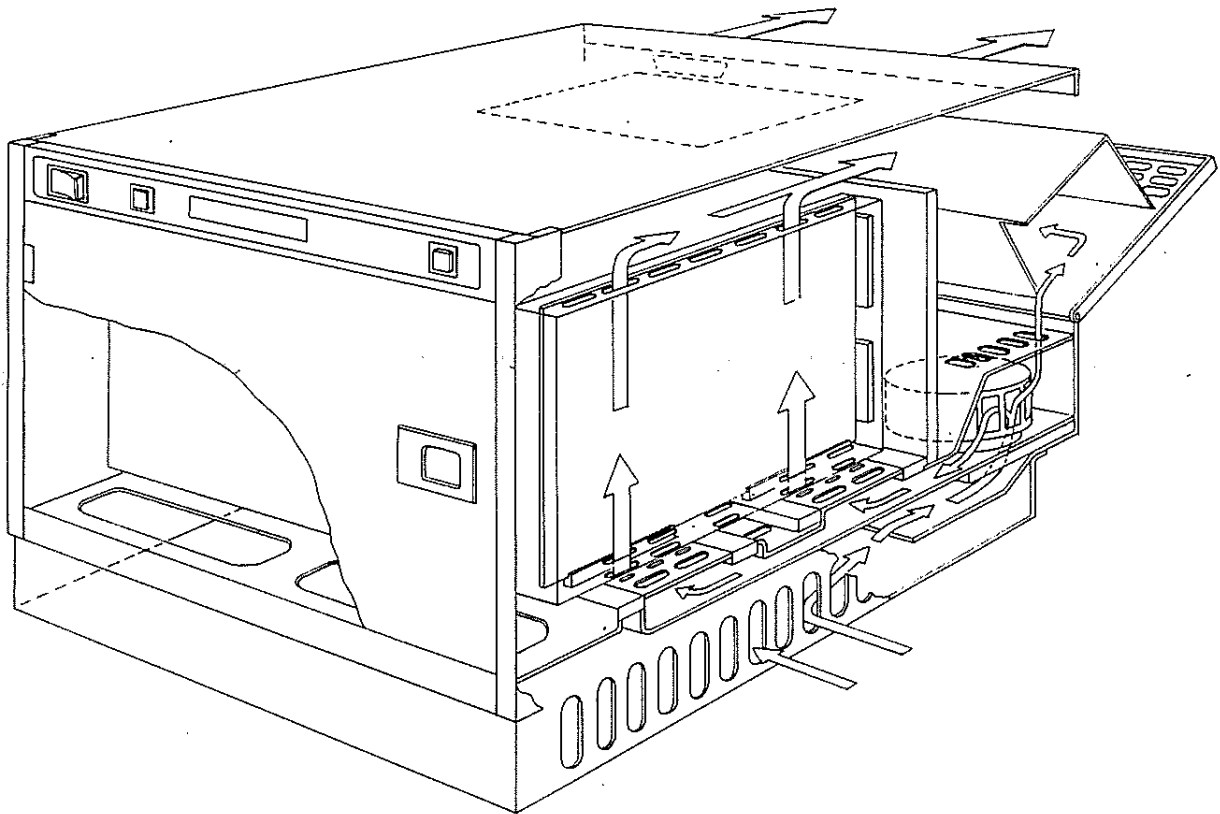

Figure 1-2, Model 1261A Glass Box View
- 1.1.12 Figure 1-2 is a glass box view of the 1261A showing the airflow through the chassis, and the position of the VXIbus compatible power supplies.